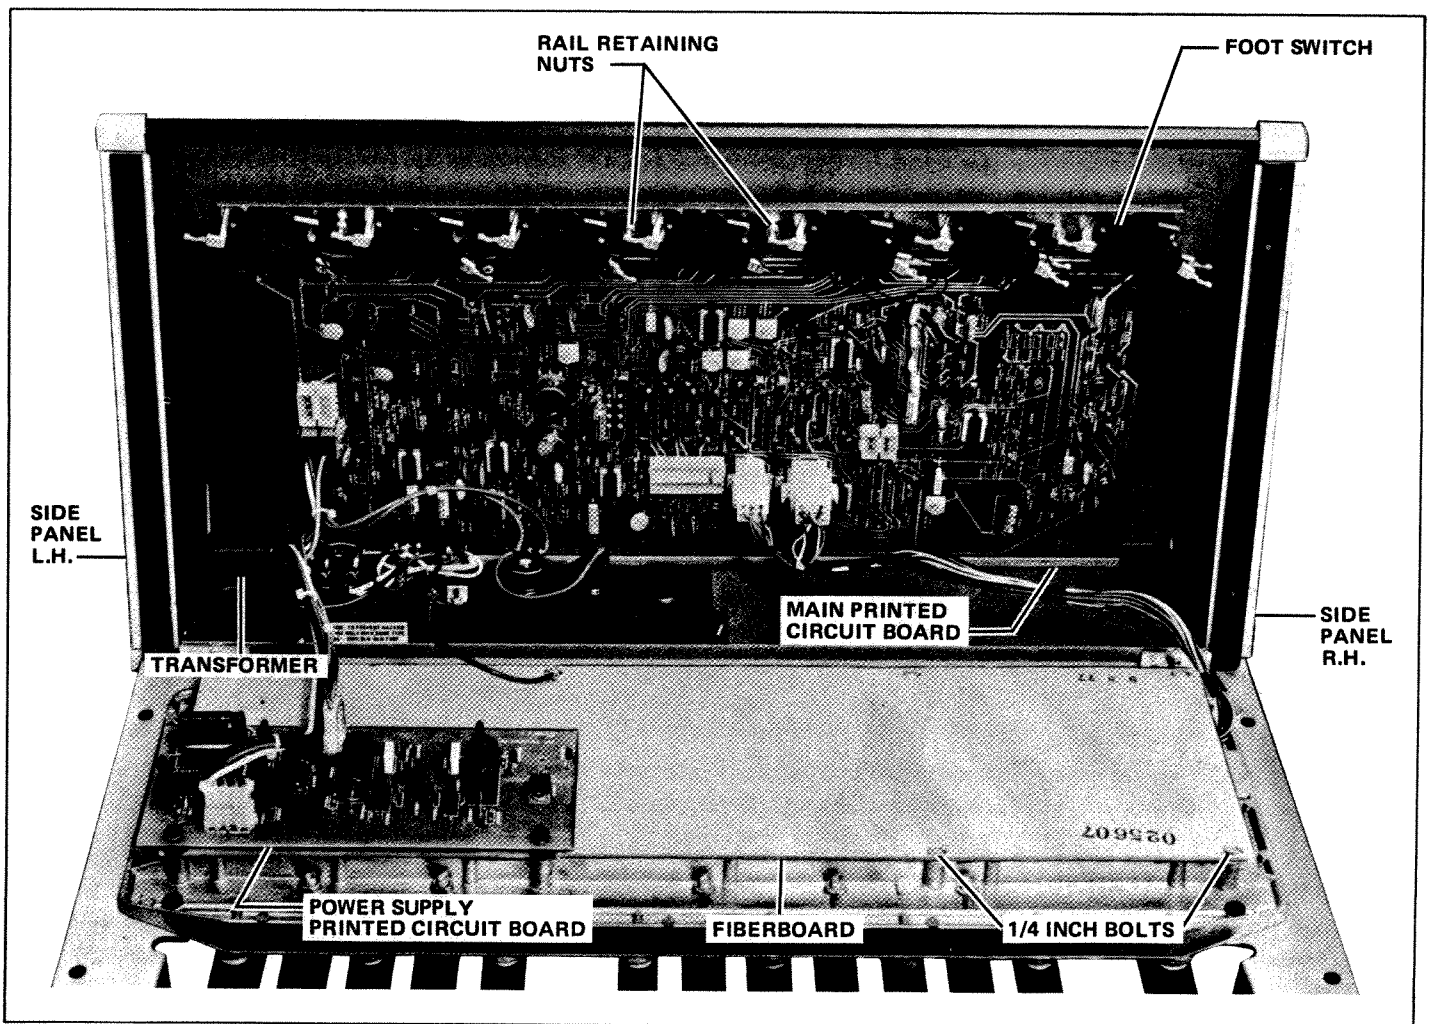

FIGURE 3-1 TAURUS WITH FOOT PEDAL AND SHELL HOUSING SEPARATED
c) With foot pedal and shell housing now separated, open unit and lean both parts together to form a "L" shape as shown on Figure 3-1.
### 3.2 PRINTED CIRCUIT BOARD DISASSEMBLY (Figure 3-1)
### 3.4 FOOT PEDAL CONTACT REMOVAL (Figure 3-1 and 3-2)